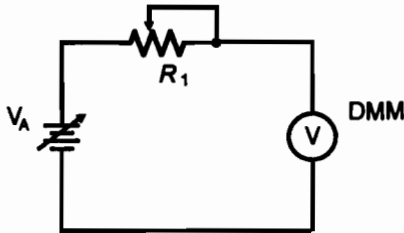

Figure 4.1
3. Connect the circuit of Figure 4.1. Do not readjust the power supply value set in step 2. While measuring the voltage across  $R_1$ , adjust the potentiometer until the meter displays one-half of the initial voltage set in step 2. Since this is a series circuit and each impedance-potentiometer and meter has one-half the total supply voltage, their impedances are equal.